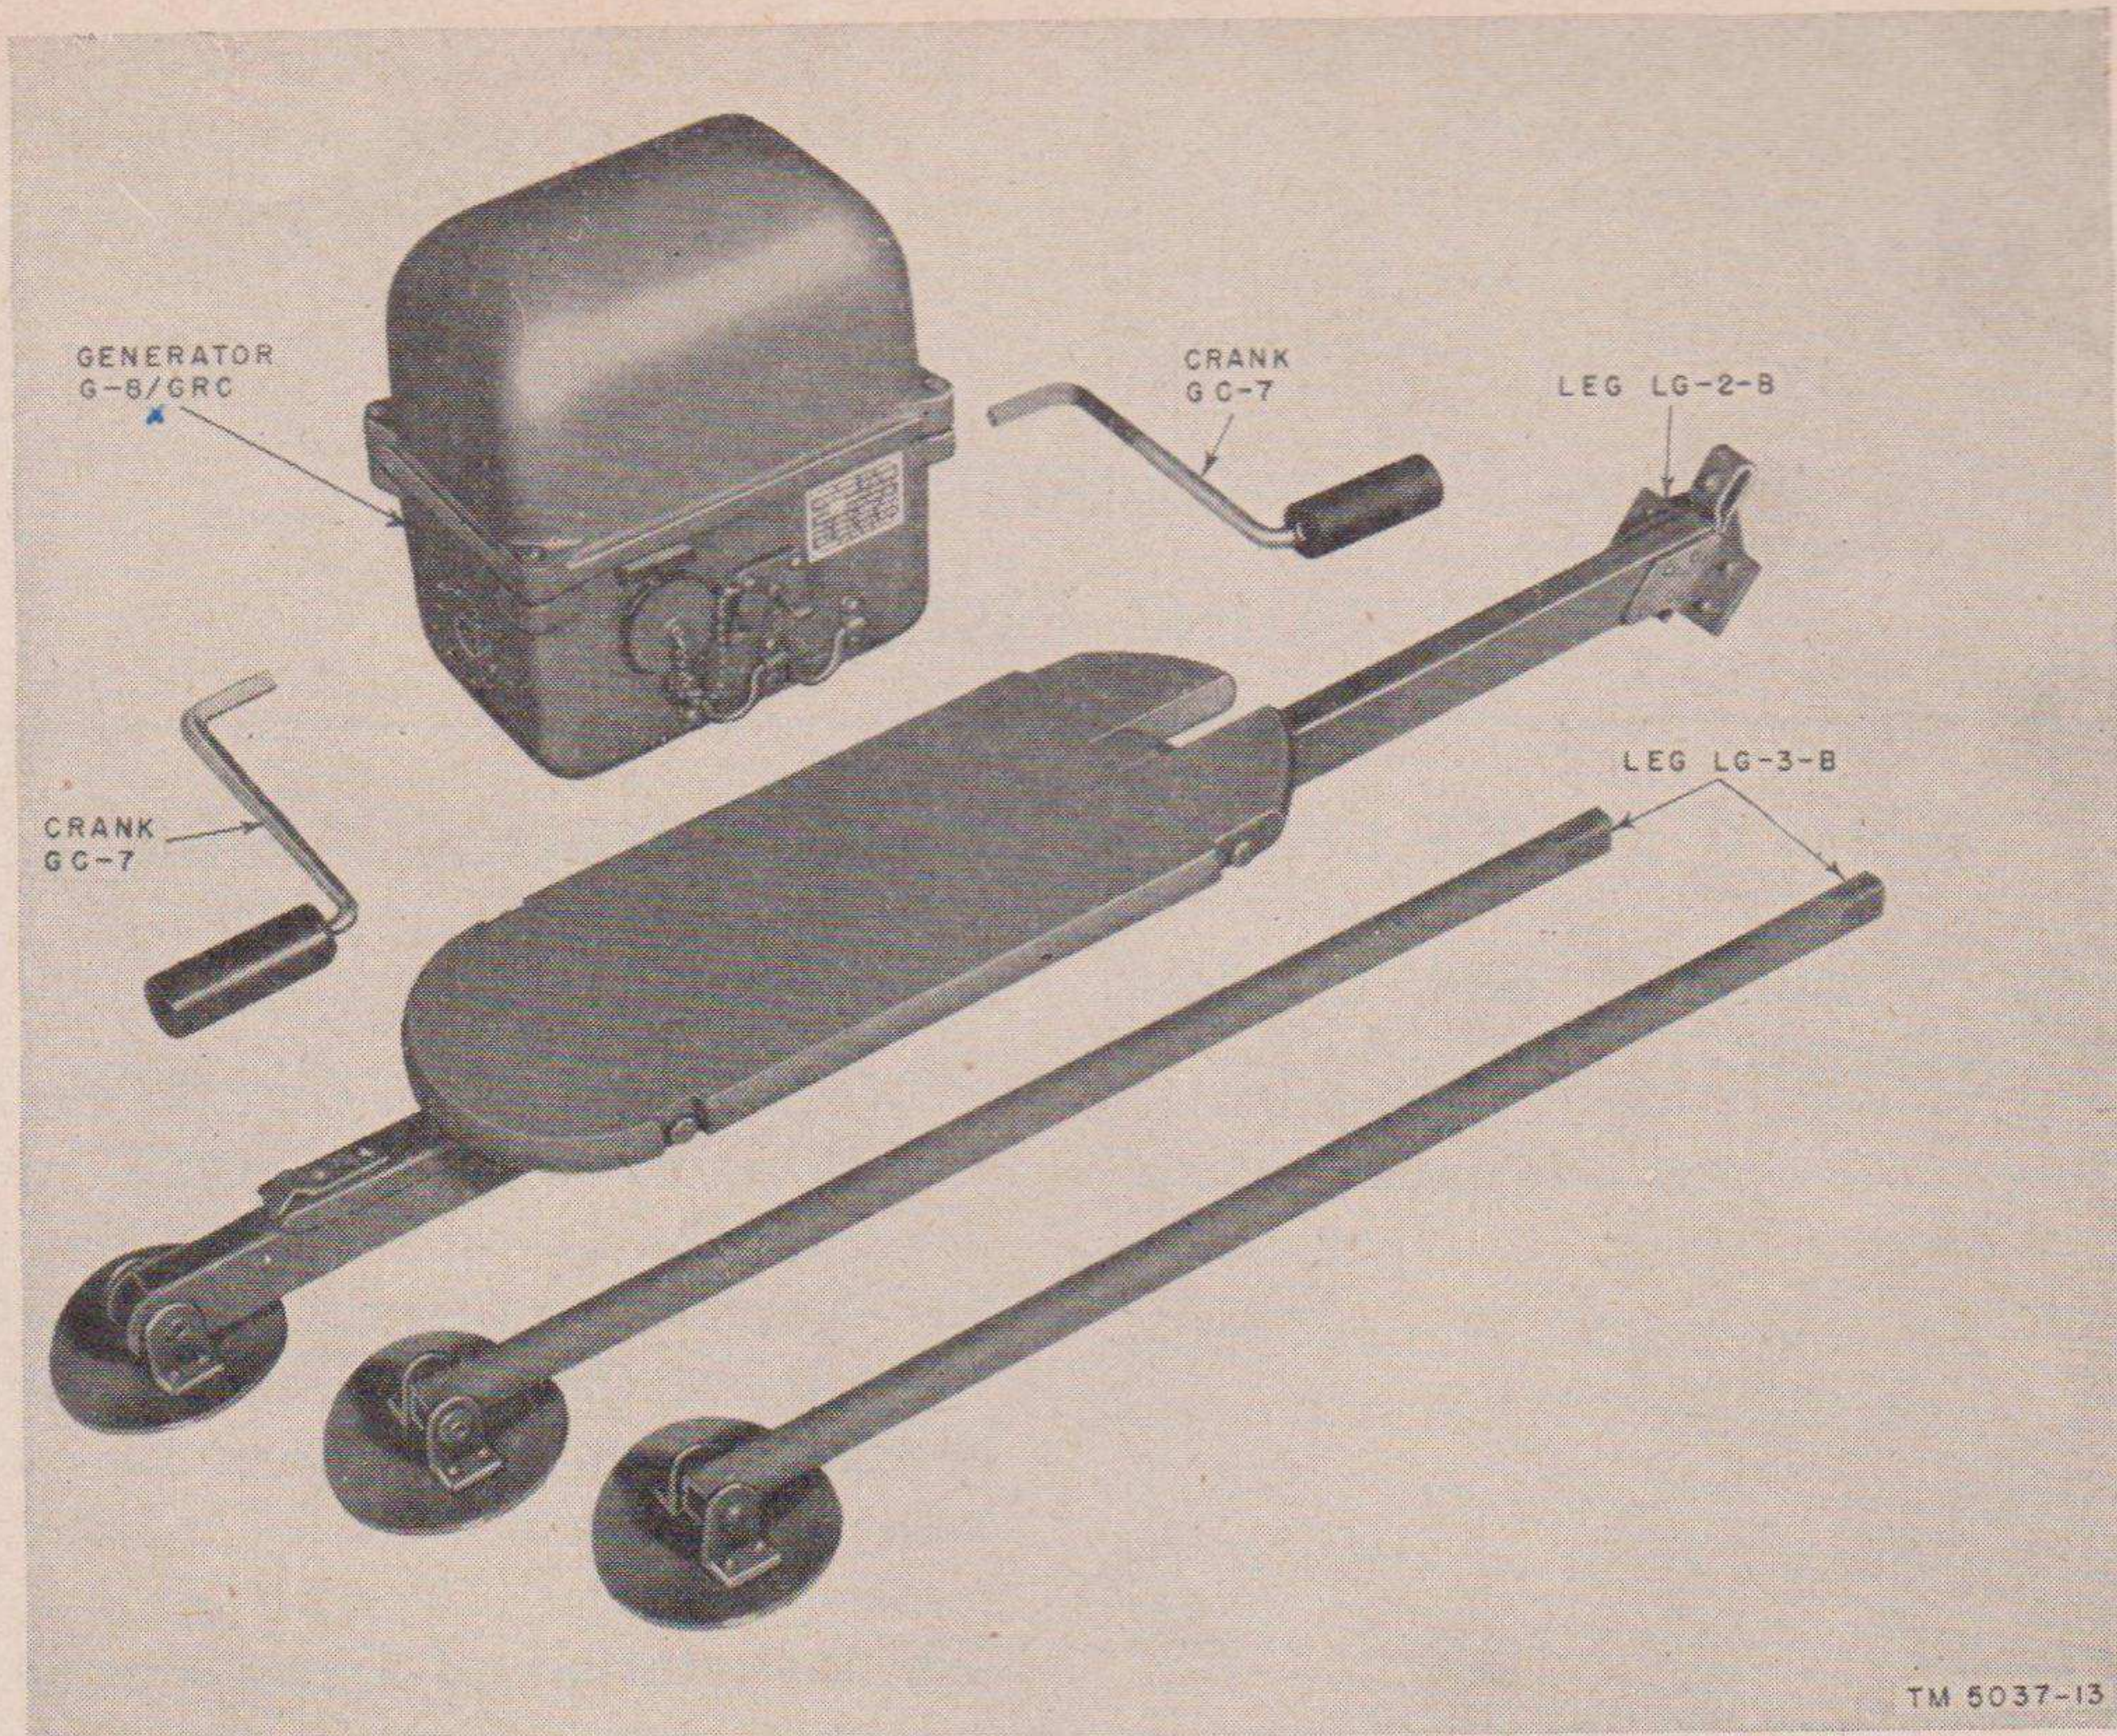

Figure 3. Generator G-8/GRC, operating components.
7. Table of Components (fig. 3)
a. Generator G-8/GRC consists of the generator proper, one Leg LG-2-B, two Legs LG-3-B, and two Cranks GC-7 (fig. 3). The generator is a three-commutator unit with an actuating gear train, a radio noise filter, and a voltage regulator. These components are shock-mounted inside a waterproof cast magnesium case. The outside of the case contains openings for the operating cranks, the power connector, and the straps necessary for attachment of the mounting legs. The generator is intended for operation by a single operator seated on the seat leg and turning the operating crank at the required speed. The generator